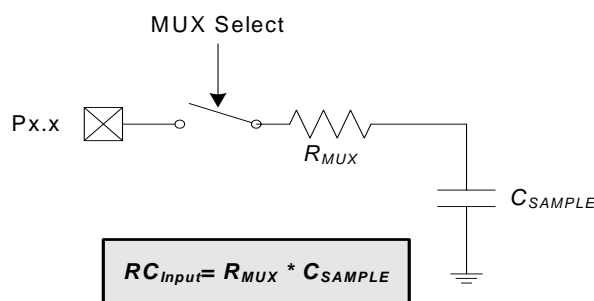

Figure 4.6. ADC0 Equivalent Input Circuits
Figure 4.6 shows the equivalent ADC0 input circuit. The required ADC0 settling time for a given settling accuracy (SA) may be approximated by Equation 4.1. See Table 2.3 on page 31 for ADC0 minimum settling time requirements.